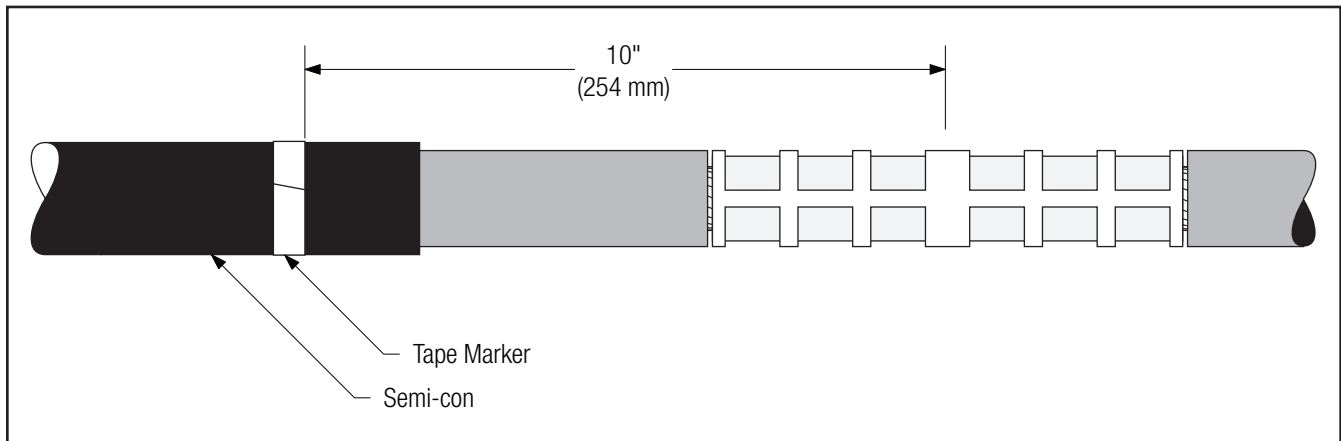

Figure 17
- 5.1 Apply a tape marker to semi-con insulation shield on cable which does not contain splice. Measure 10" (254 mm) from center of connector (*Figure 17*).